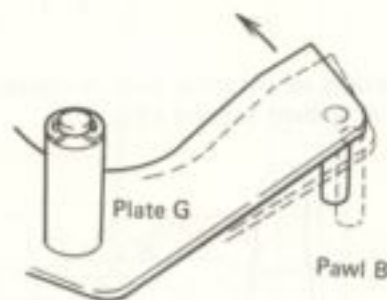

Fig. 9
2. The motor rotates and as gear B begins to turn, pawl B (Fig. 9) and plate G move. Plate G and plate F above it move together and maintain the microswitch in the ON position.